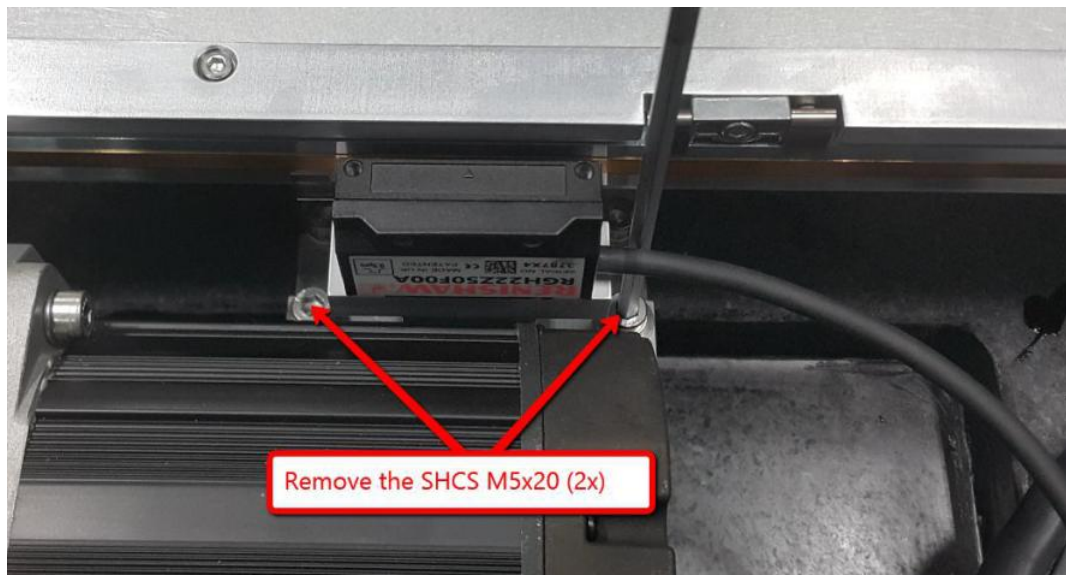

Figure 10 Y-Axis encoder
4. Assemble Y-Axis encoder as shown in Figure 10.